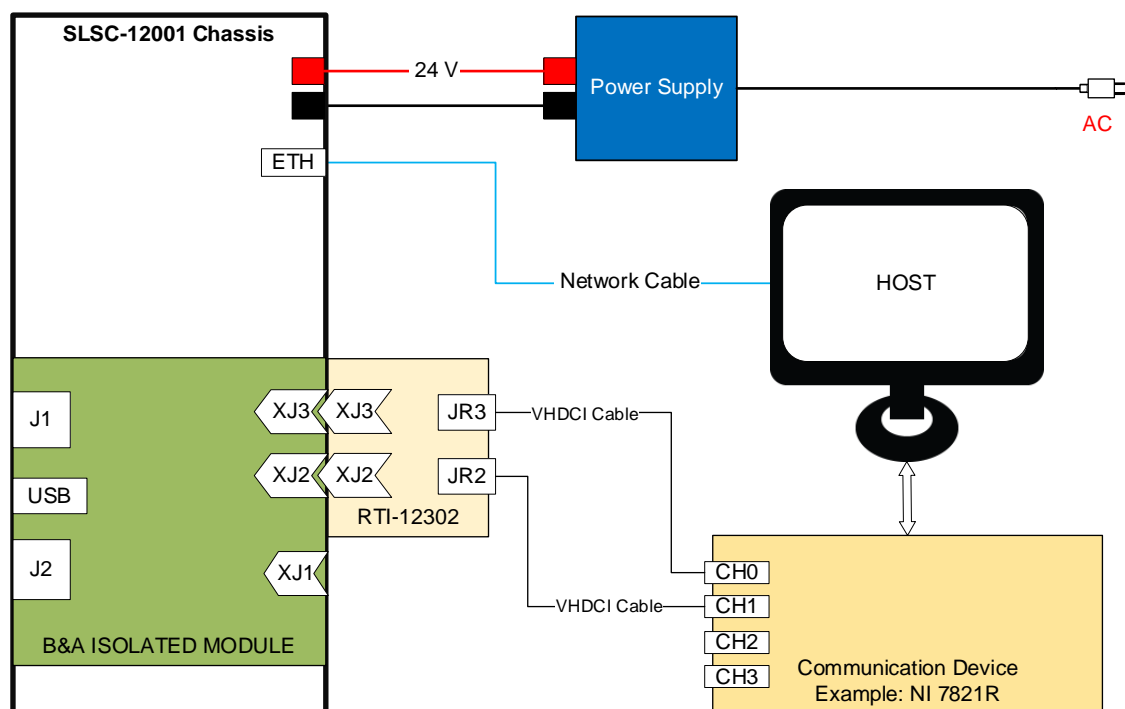

Figure 13. Sample Setup utilizing RTI
- Two VHDCI connectors are located on the front of the RTI-12302 which can be used to connect to other communication devices such as NI 7821R module. A VHDCI-to-VHDCI COTS cable or custom cable can be used to establish the connection. See example setup shown in Figure 13.